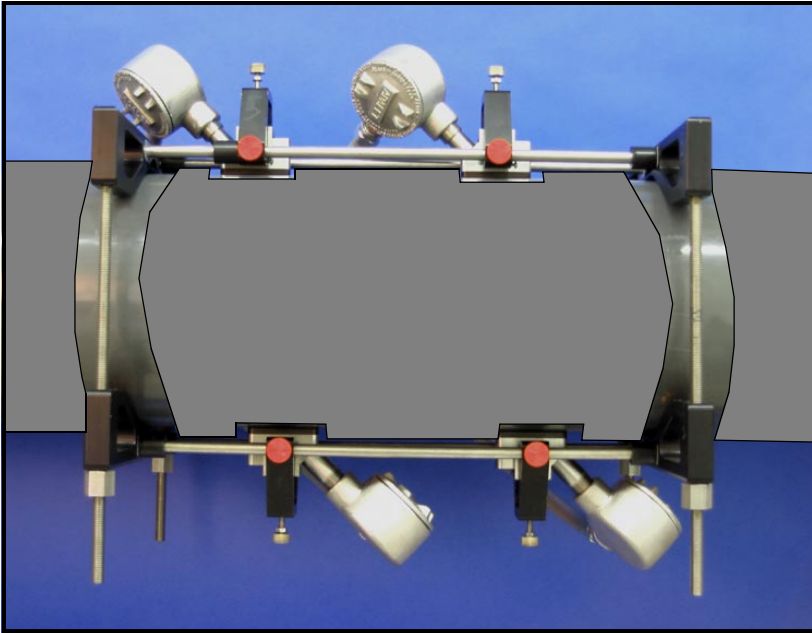

Figure 10: DMP-3 Damping Material with Fixture Installed
5. Spread the DMP-3 material so that it covers the whole area under the fixture, and 4 to 6 inches on both sides of the fixture, to a thickness of about 0.25 in. (6.4 mm), as shown in Figure 9 and Figure 10 on page 22.
7. Remove the DMP-3 material from the transducer locations (see Figure 10 below) and proceed to *Installing Transducers* on page 24.